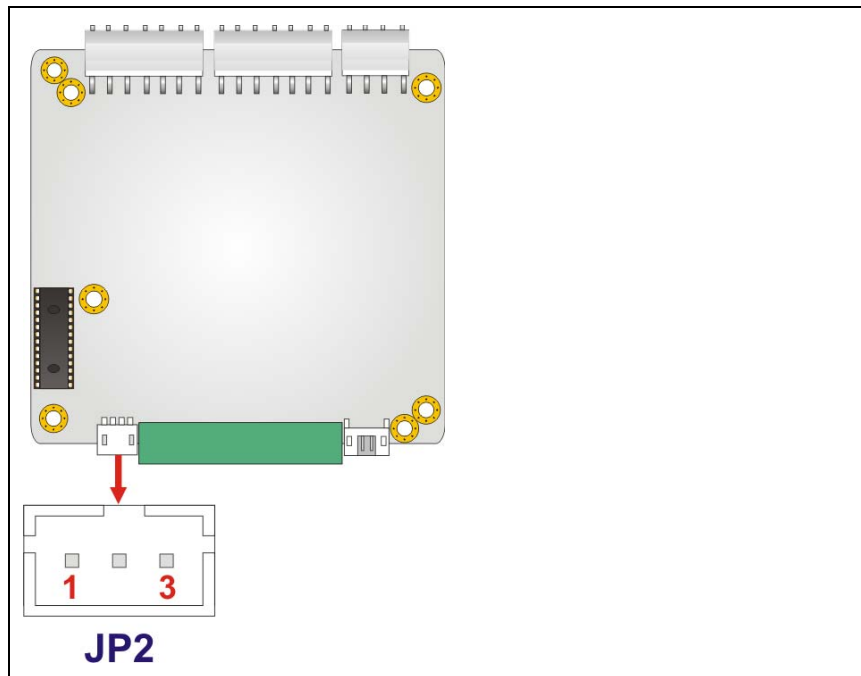

Figure 4-7: RS-232 Cable Connector Location
- CN Location:** See Figure 4-7